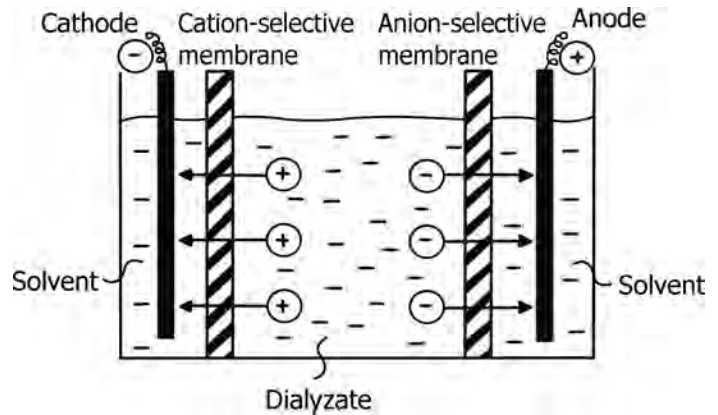

FIGURE 18.63 Electrodialysis.
- Figure 18.63 illustrates the principle involved in electro dialysis.